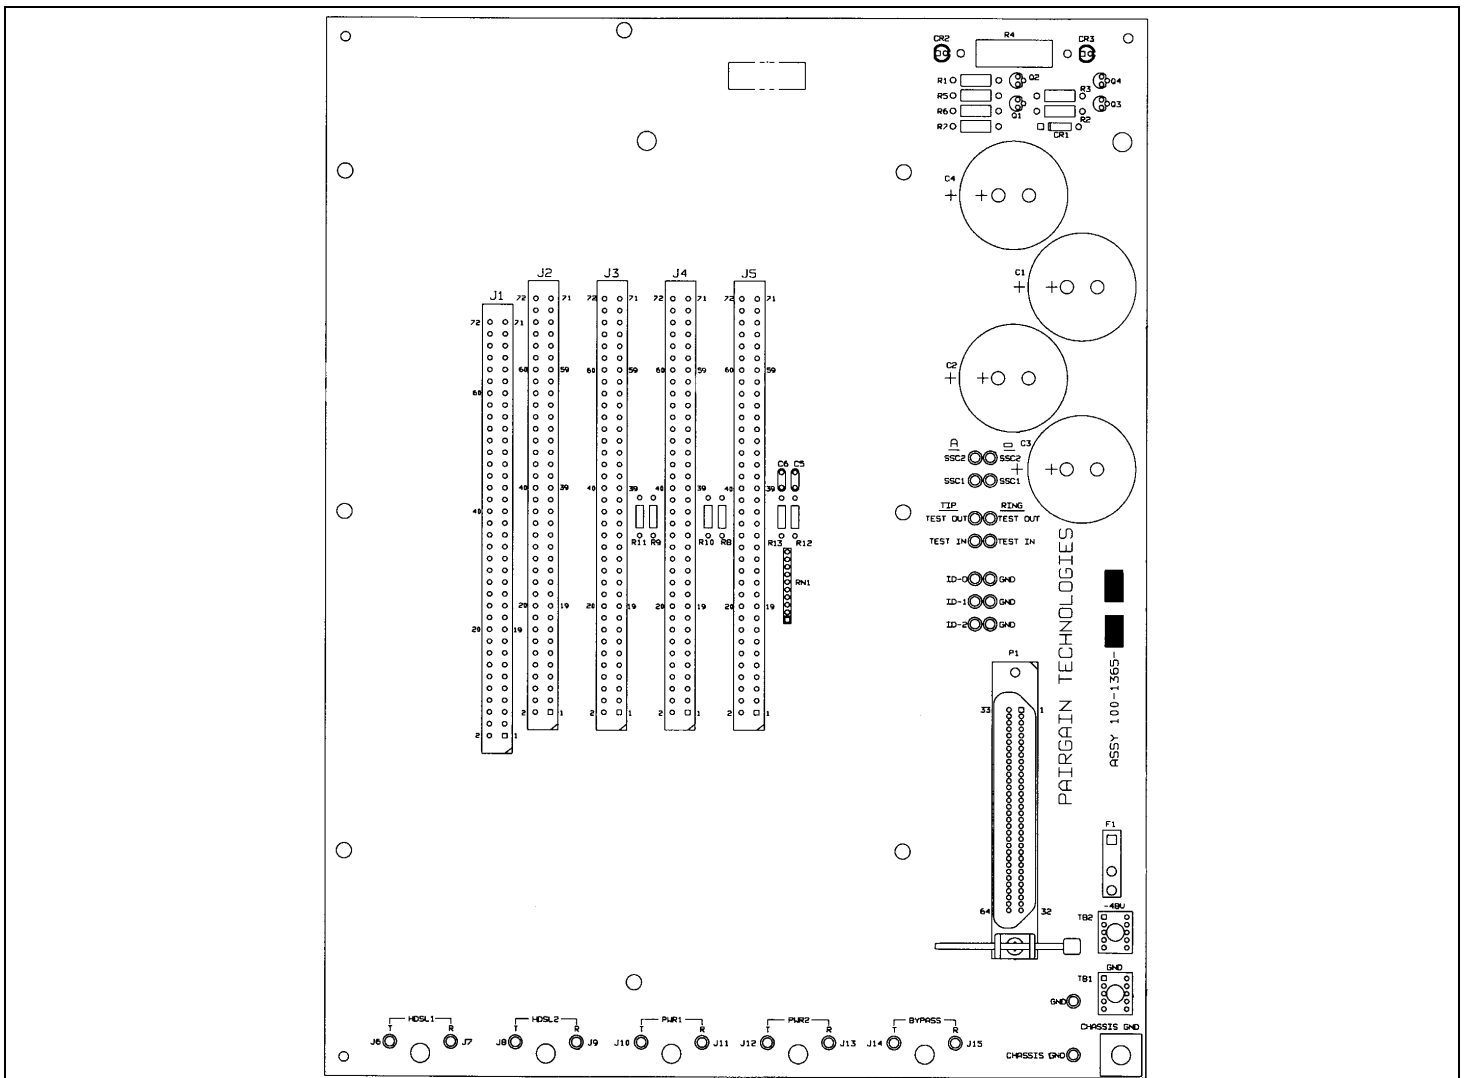

Figure 2. Backplane of the FRE-765 RT.
6.01 The backplane of the FRE-765 RT Enclosure (Figure 2) contains the following connectors and fuse: